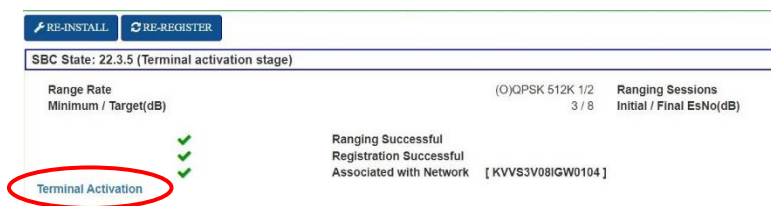

Figure 23
Step 38: When the Terminal starts the Registration no action is needed, just verify the 3 steps have **green flags** (fig. 23)
Step 39: Click '**TERMINAL ACTIVATION**' and start the Self-Activation phase (fig. 23)
The Terminal Relocation Procedure allows to relocate a terminal (within one Beam or from one Beam to another) in case a customer changes address. A Work Order will be issued to provide all the necessary parameters and information. The installation process remains the same, with the exception that there is no need to start the Self-Activation phase and enter the Activation Key (Steps 41 to 44), since the process stops at the Registration Phase (Step 38) which in the Relocation case is composed of 5 Steps (Fig.23) instead of 3 (Fig.26) and ends with the message *Installation Completed!!!*
The Jupiter terminal state code provides a concise indicator of error or marginal conditions (states) when the terminal is not operating in a fully operational and healthy state. Check it on **System Status** (click on the top right bar of the Terminal GUI, 192.168.0.1), or during the Pointing and Registration phases (Fig. 17 and Fig. 23), following the table below: